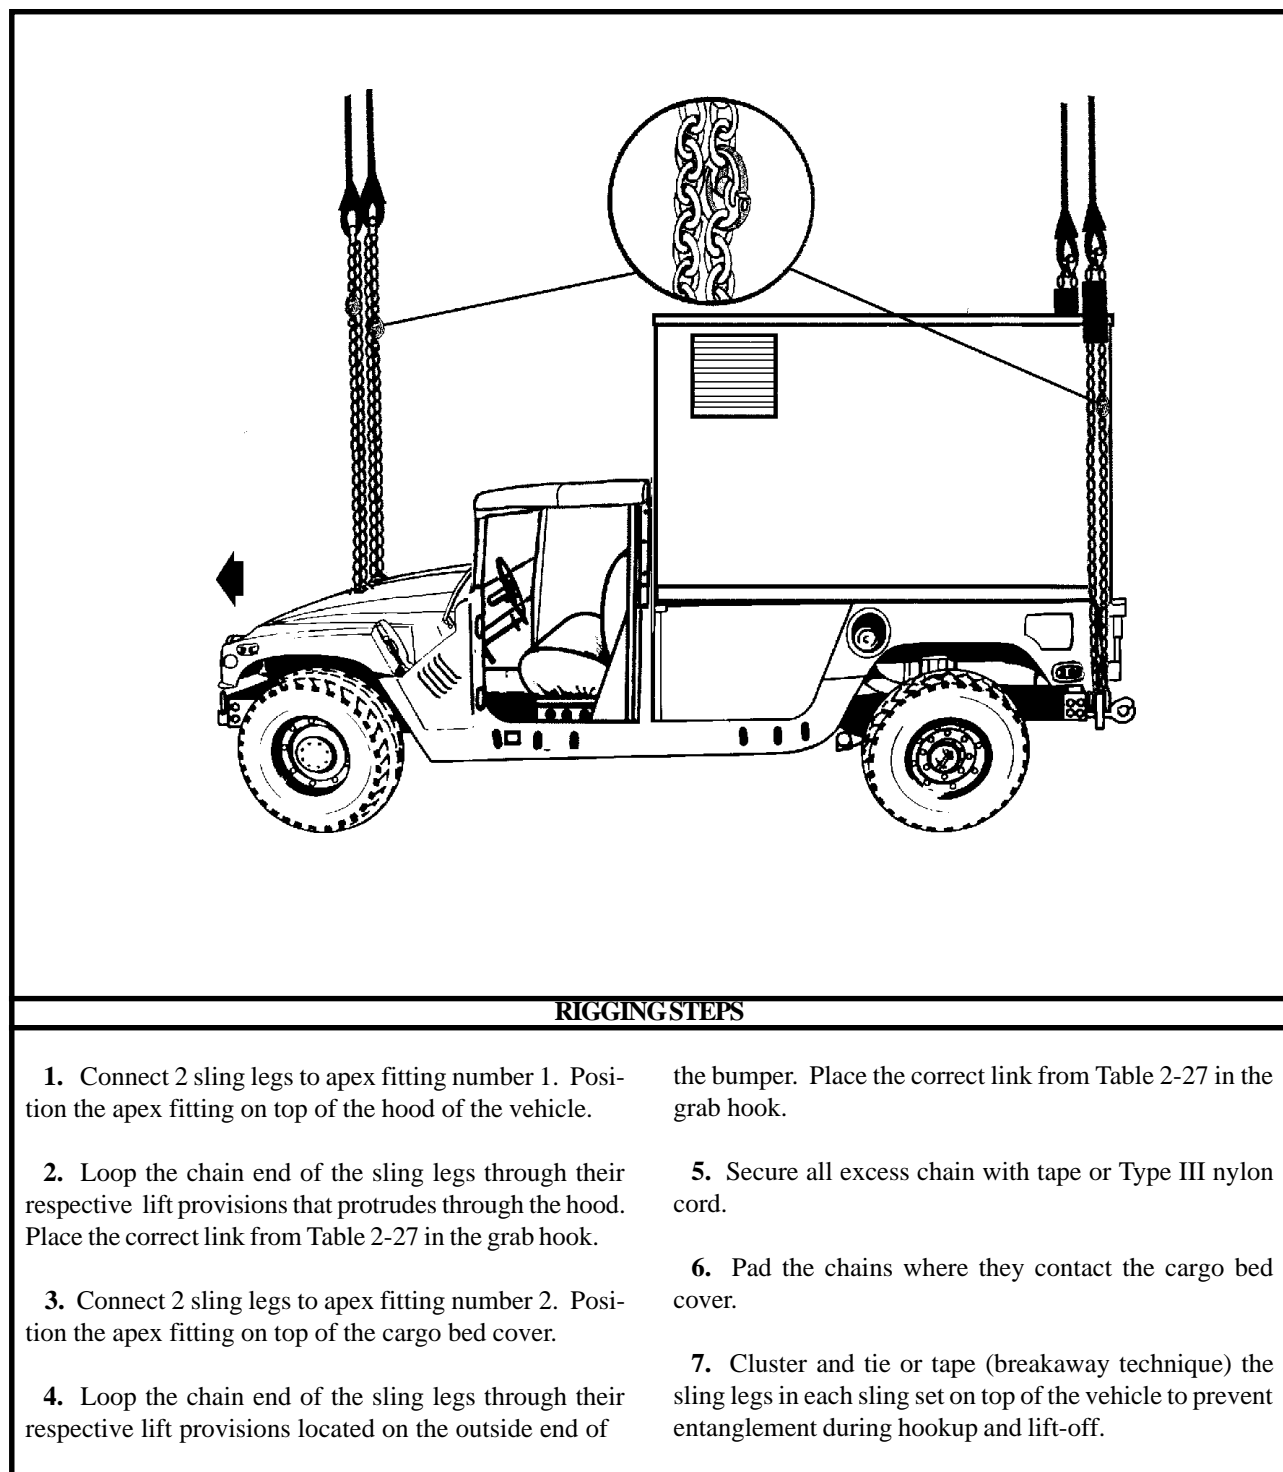

Figure 2-26. M1097A1 (H-HMMWV) with Cargo Bed Cover (CBC), Aluminum or Fiberglass
(2) **Rigging.** Rig the load according to the steps in Figure 2-26.
(4) **Derigging.** Derigging is the reverse of the preparation and rigging procedures in steps d (1) and d (2).